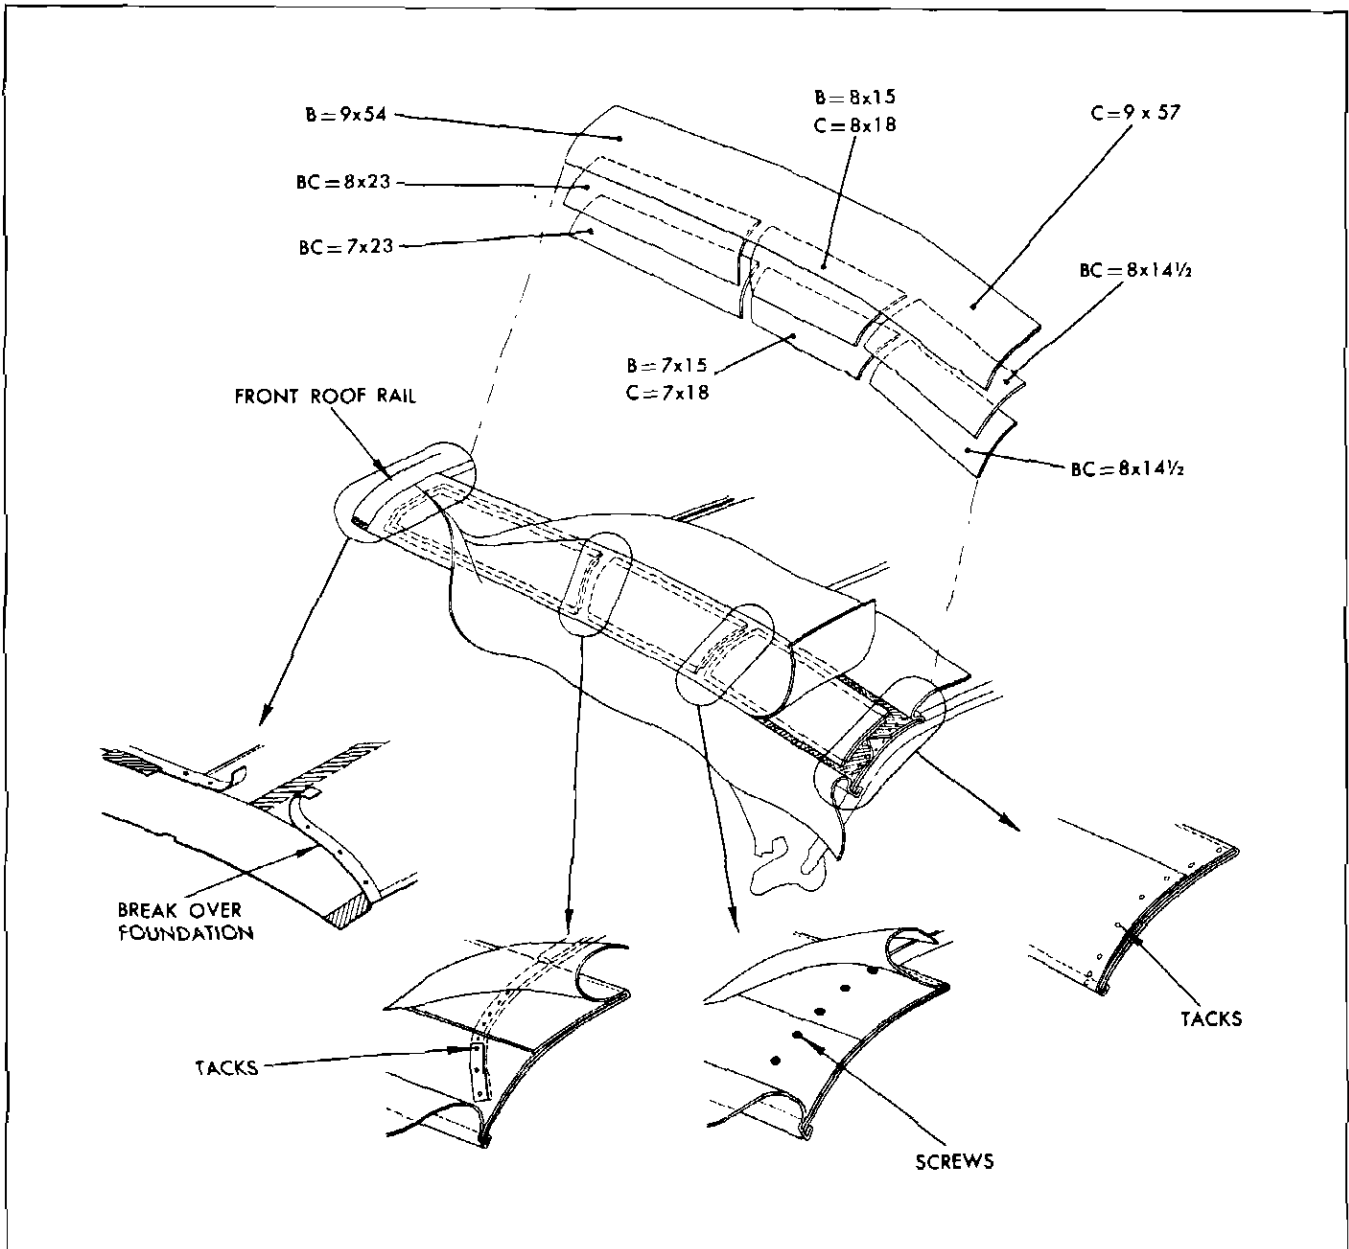

Fig. 7-28 Installation of Side Stay Pads
3. Tack side stay pads in conventional manner to rear roof bow. Stay tack pads to front roof rail and front bow (Fig. 7-28). Install stay pad wadding in conventional manner using an approved trim cement.